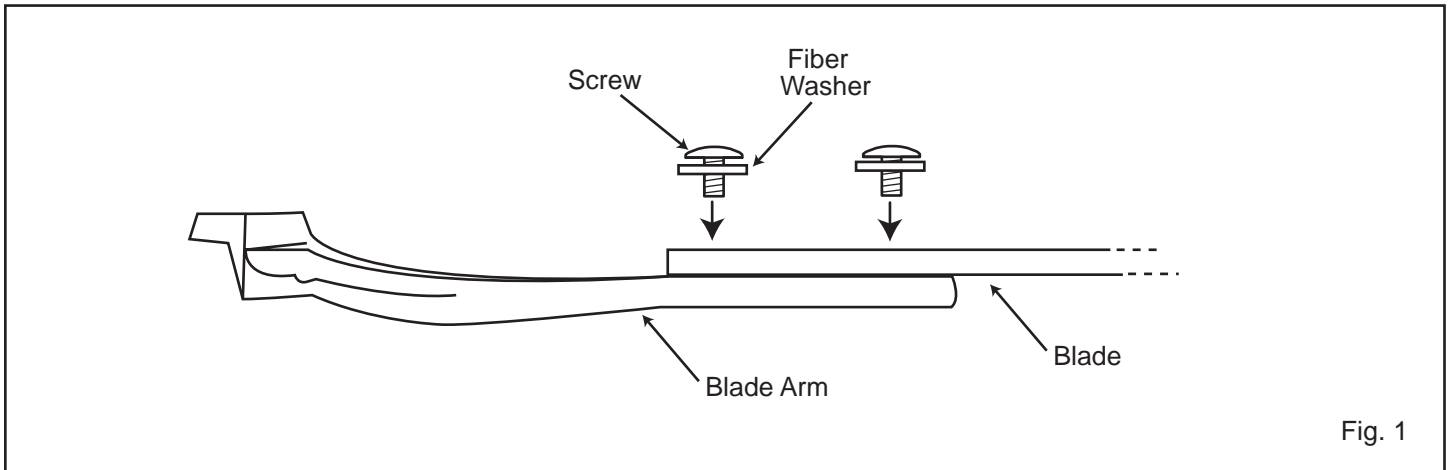

Fig. 1
1. Place fiber washer on screw. Insert this assembly through the blade and start the screw into the blade arm. Repeat this procedure without tightening the screw until all 3 screws have been started into the blade arm (Fig. 1).